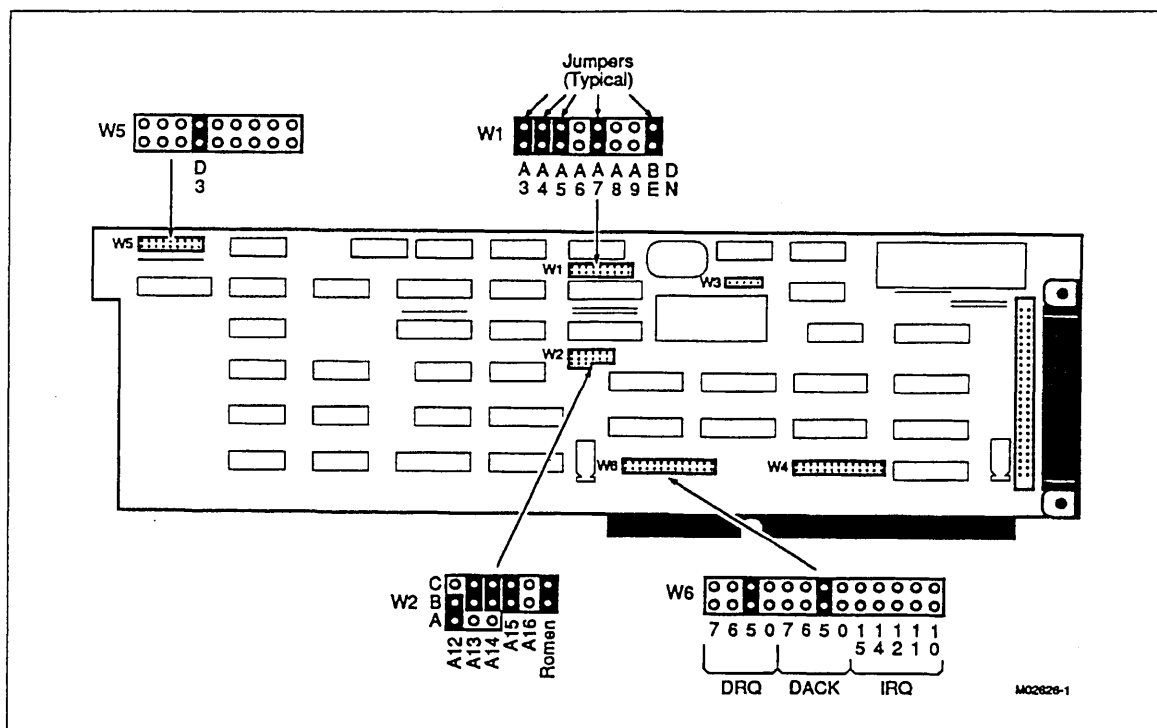

Figure 7-8. Jumper Strap Locations on SE SCSI Board for Card Slot 4
- b. If installing a new SE SCSI board in card slot 4, set its jumper positions to those of the card removed from the same slot. These positions are as follows (see also figure 7-8).